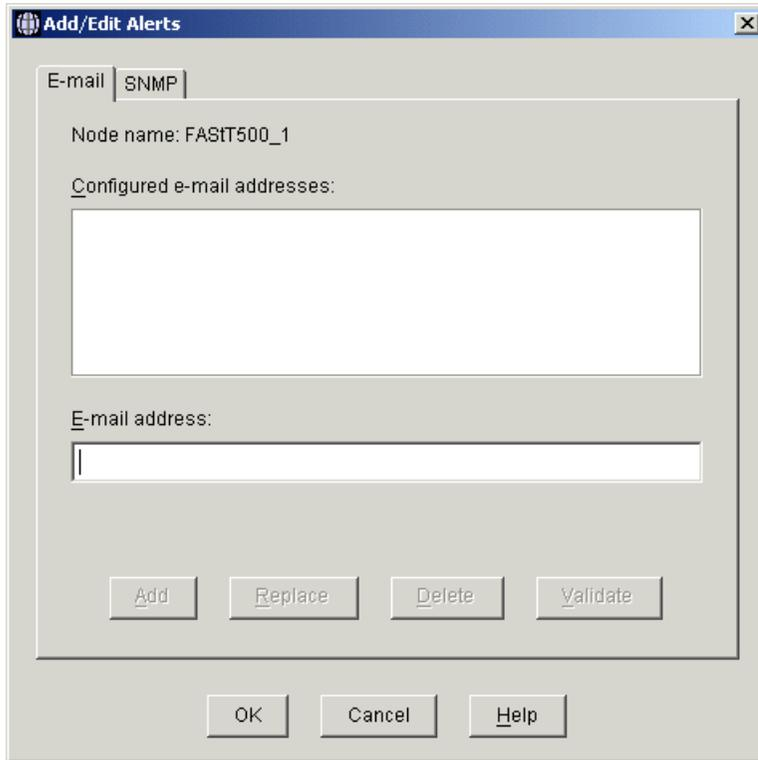

Figure 6-3 Add/Edit Alerts E-mail tab
4. Select **Edit->Alert Destinations...** to display the Add/Edit Alerts window (see Figure 6-3):